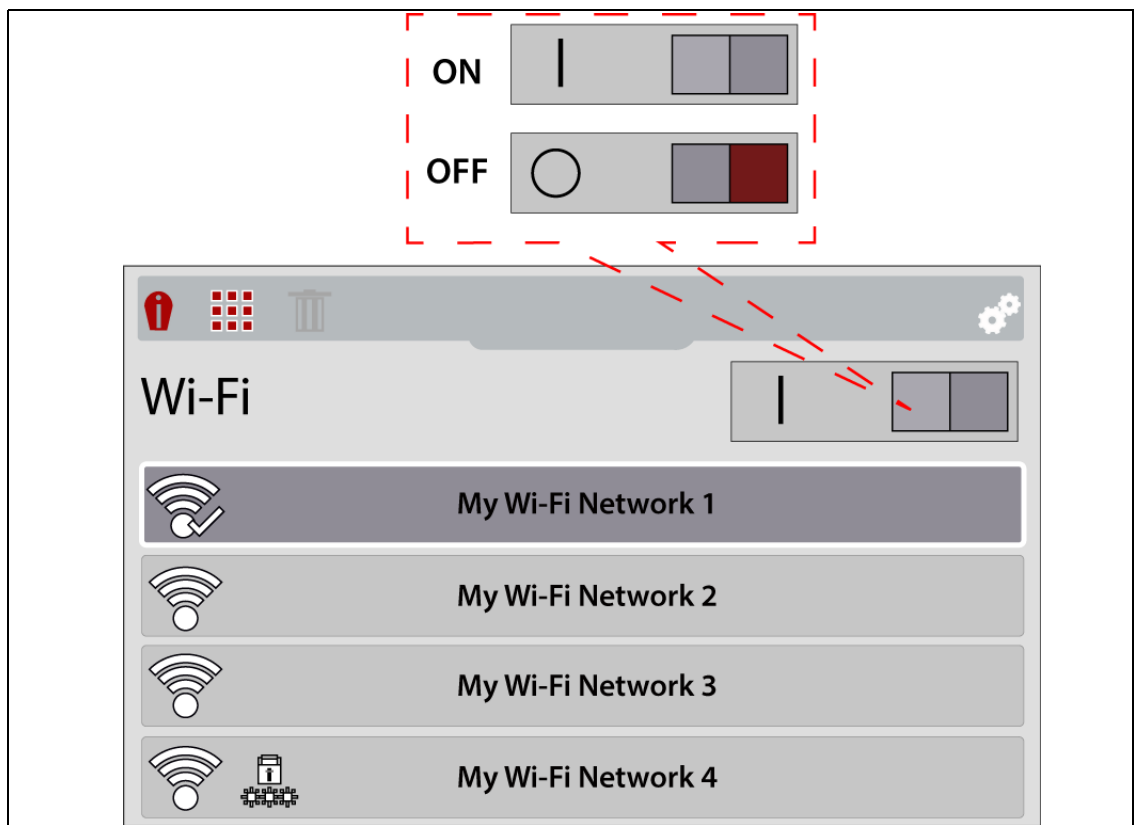

Figure 5-4 Wi-Fi On/Off / Network Selection
Selecting **Wi-Fi Connection** from the settings menu allows you to turn Wi-Fi on/off and select a wireless network (Figure 5-4).
4. To turn Wi-Fi on/off, press the **UP** control button to select the **Wi-Fi Power** icon, then press the **Y** button to turn (toggle) Wi-Fi on/off (Figure 5-4).
5. Press the **Down** control button to enter the Wi-Fi network list, then use the **Up / Down** control buttons to select a wireless network. Press the **Y** button to enable the selection (Figure 5-4).